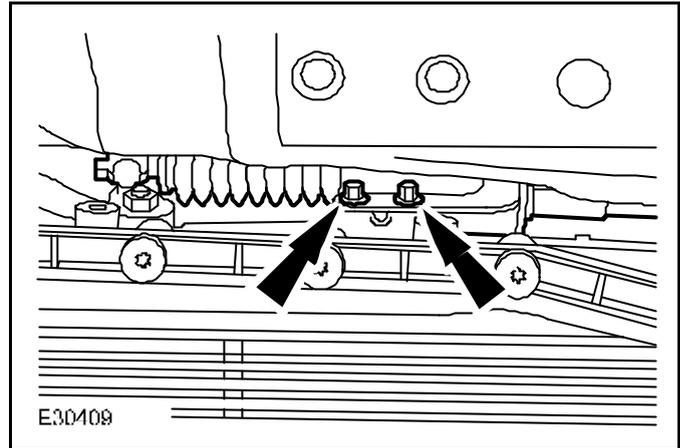

Fig. 7
- 16 Align the selector lever cable. Install and fully tighten the retaining bolts to 11 Nm (see Fig. 7).